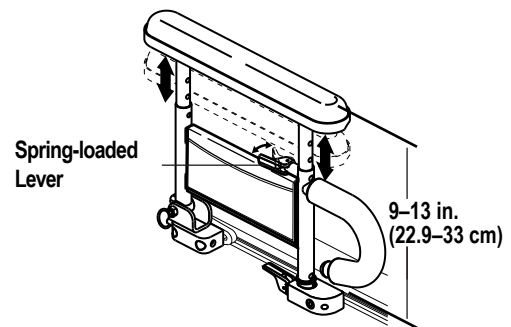

Figure 10. Two Post Armrest Height Adjustment
1. Push the spring-loaded lever inward. **See figure 10.**